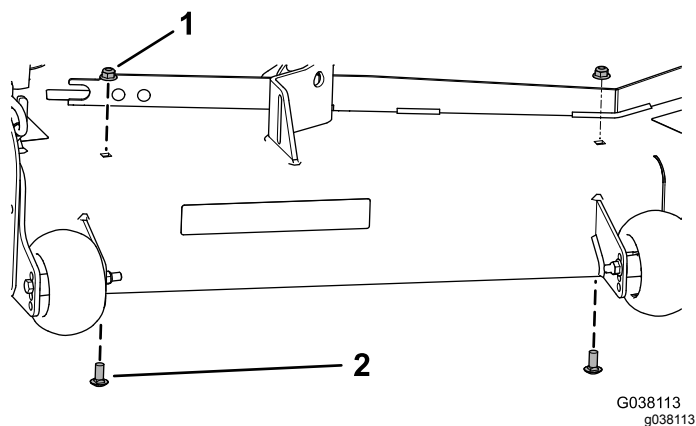

Figure 15
1. Remove the 2 existing flange nuts (3/8 inch) and 2 carriage bolts (3/8 x 7/8 inch) from the mower deck (Figure 15).